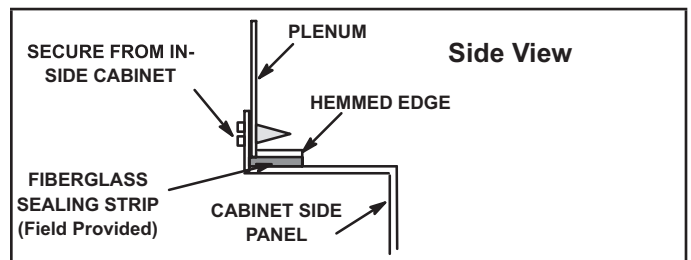

FIGURE 11
- 4 - In closet installations, it may be impossible to install sheet metal screws from the outside. In this case, make plenum with a removable front and install screws from the inside (See figure 11).